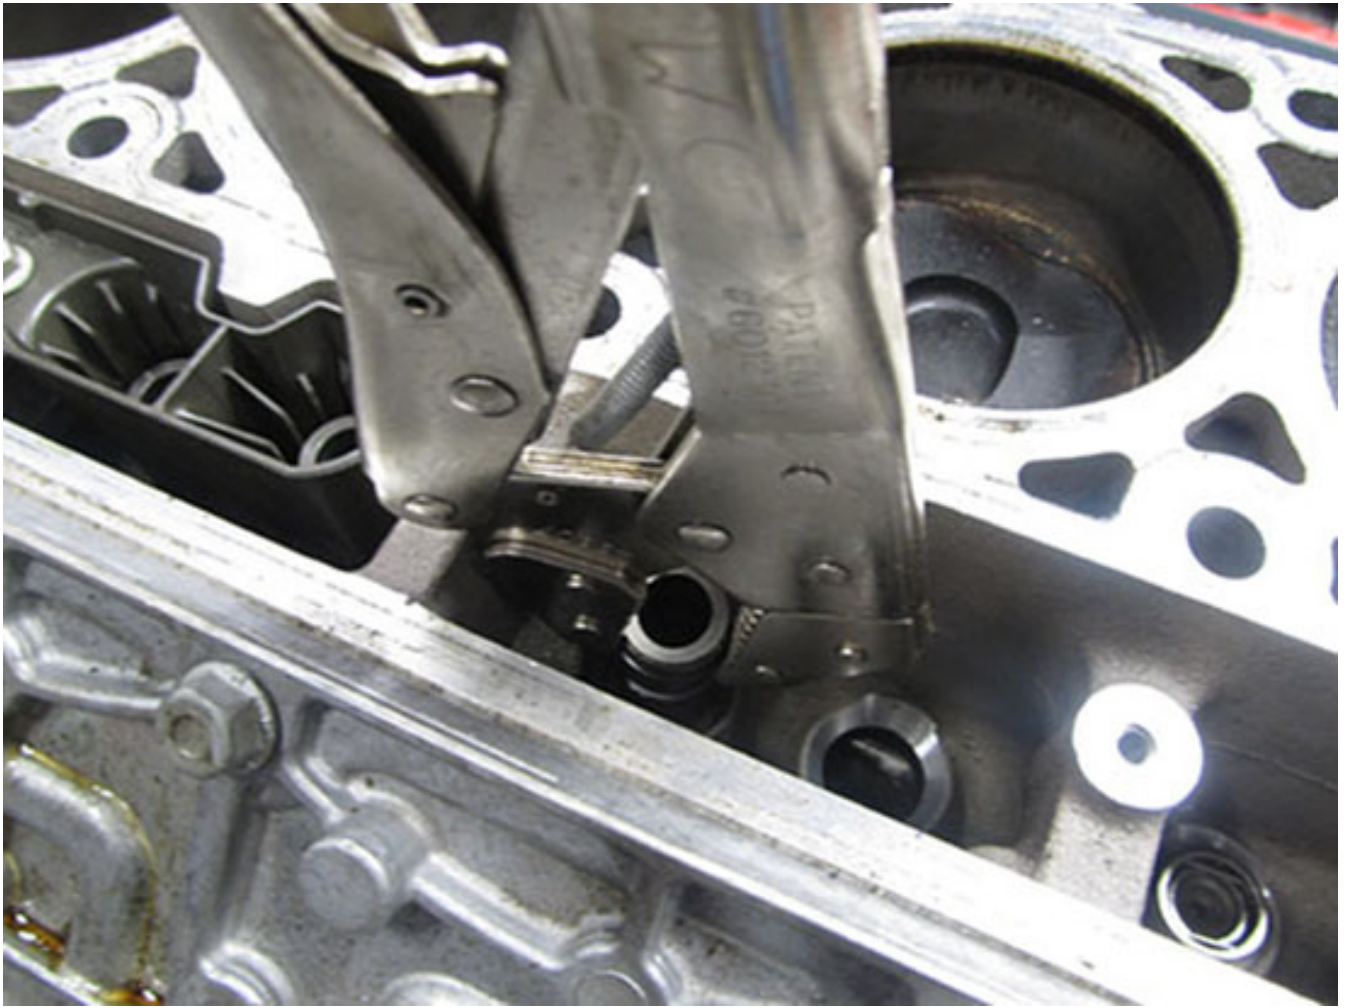

Fig. 11
1. Use vice grips with a slide hammer. (Fig. 11)